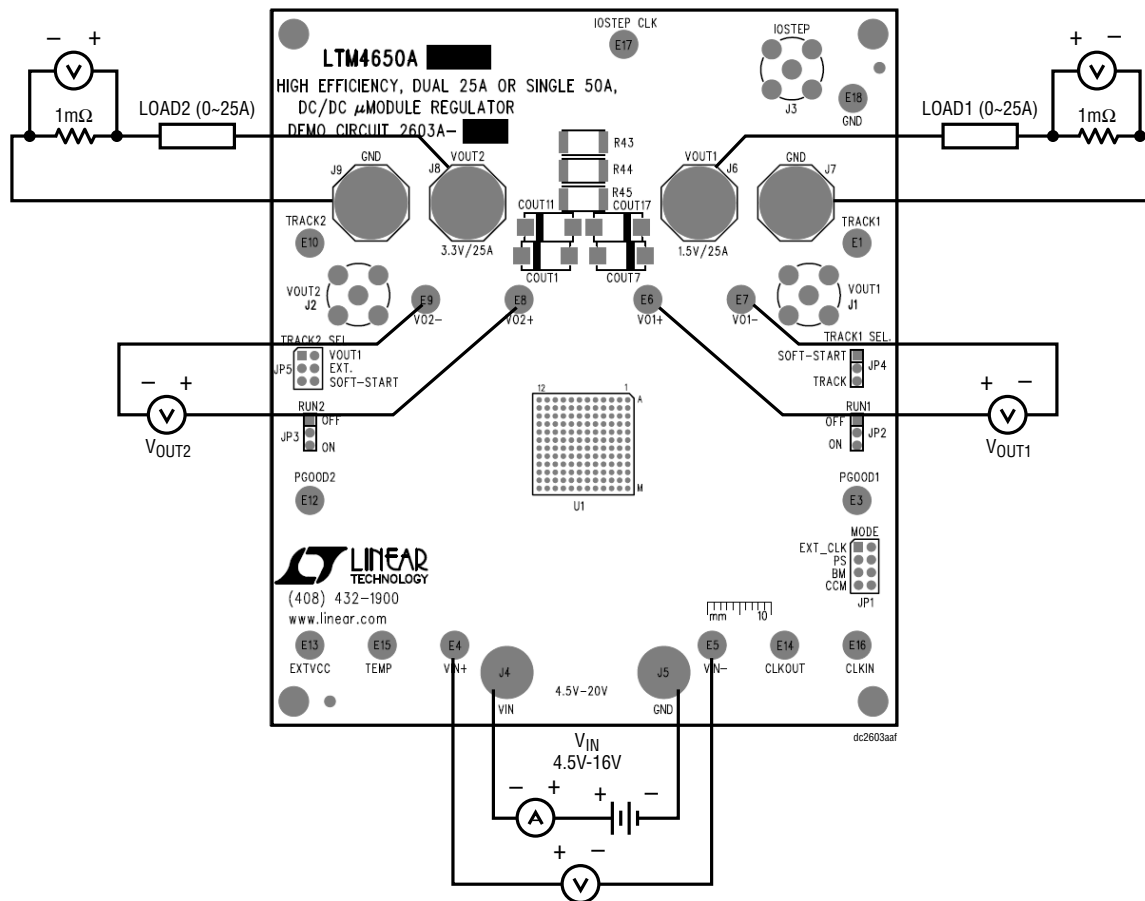

Figure 2. Test Setup of DC2603A-A
Demonstration circuit DC2603A-A is easy to set up to evaluate the performance of the LTM4650AEY. Please refer to Figure 2 for proper measurement setup and follow the procedure below:
2. With power off, connect the input power supply, load and meters as shown in Figure 2. Preset the load to 0A and  $V_{IN}$  supply to 12V.